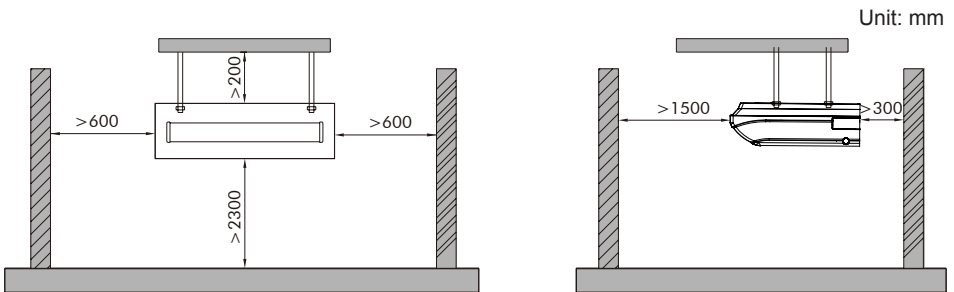

Fig. 3.1
- (1). Install the unit at a place where is strong enough to withstand the weight of the unit.
- (2). The air inlet and outlet of the unit should never be clogged so that the airflow can reach every corner of the room.
- (3). Leave service space around the unit as required in Fig.3.1.